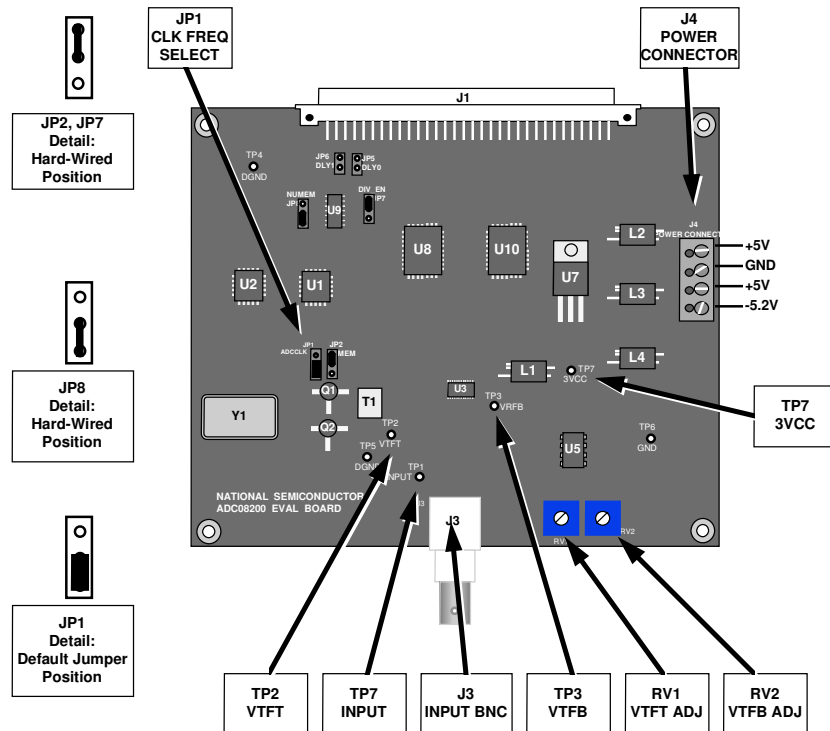

Figure 1. Component and Test Point Locations
The ADC08200 Evaluation Board comes pre-assembled but may be obtained as a bare board that must be assembled. Refer to the Bill of Materials for a description of components, to *Figure 1* for major component placement and to *Figure 2* for the Evaluation Board schematic.
Refer to *Figure 1* for locations of test points and major components.
Refer to Figure 1 for locations of connectors, test points and jumpers on the board.
2. Set jumper JP1 to its default position, as shown in *Figure 1* so that the clock oscillator frequency is NOT divided by two for the ADC08200.
Refer to Figure 1 for locations of connectors, test points and jumpers on the board. If at any time the expected response is not obtained, see section 5.2.6 on Troubleshooting.